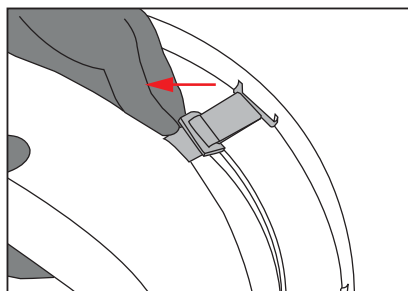

Figure 6.2
- Next, on the rear of the seat there are five straps. Starting with one of the two straps on the outside, turn the plastic clip so it can be pushed through the slot, then pull the strap all the way through the slot. **See Figure 6.2.**